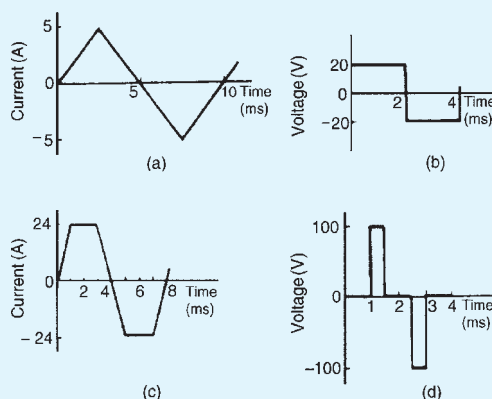

Figure 14.7
2. For the waveforms shown in Fig. 14.7 determine for each (i) the frequency (ii) the average value over half a cycle (iii) the r.m.s. value (iv) the form factor (v) the peak factor.